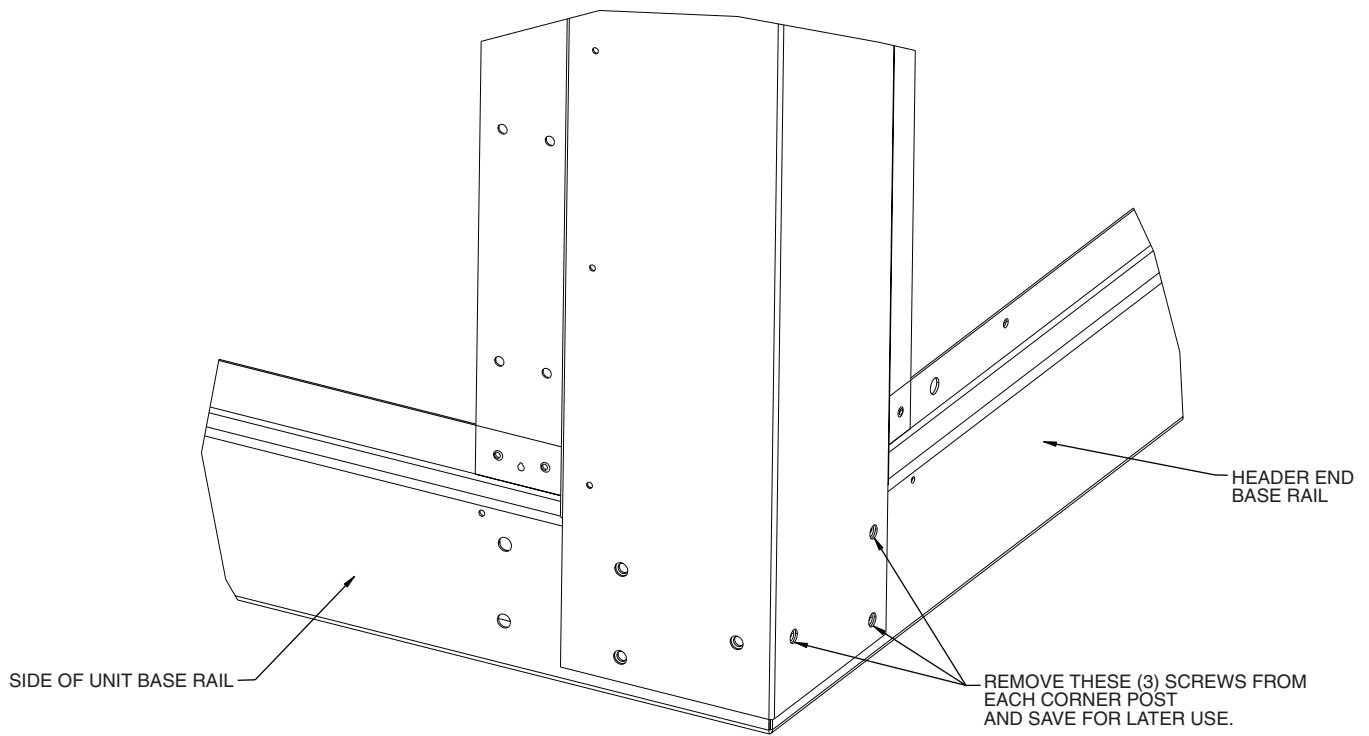

Fig. 2 — Base Rail and Corner Post Assembly
3. From the two module header ends, remove a total of two full length vinyl coated guards. These will be used to isolate the center section of the trim kit area. Save the screws. Remove any remaining guards as they will not be needed. For each of the four module corners, remove the 3 screws that attach the corner post to the base rail. Save the screws for later use. See Fig. 2.